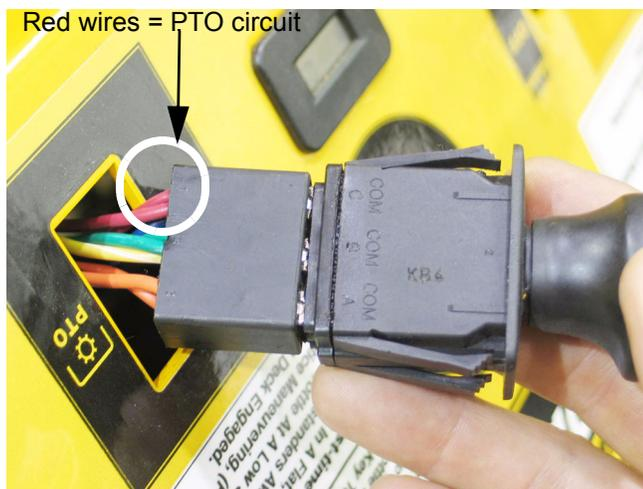

Figure 32.3
32.3. Power from the key switch flows to the common spade on set of contacts C of the PTO switch. See Figure 32.3.